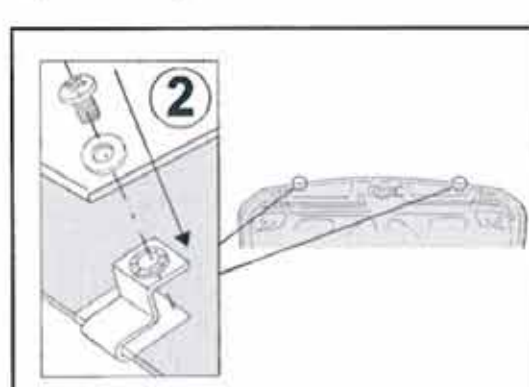

Figure 11. Securing Hood Protector
11. Secure the outer center of Hood Protector to metal clips with the screws and washers provided, as shown in figure 11.